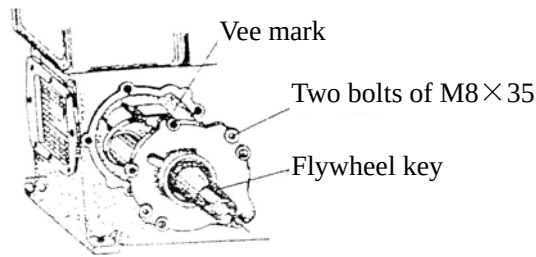

Fig.22 Dismounting crankshaft
7.4 Screw two bolts of M8×35 simultaneously into the screw holes of crankshaft bearing cover to push the cover and crankshaft out from engine block(See Fig. 22).